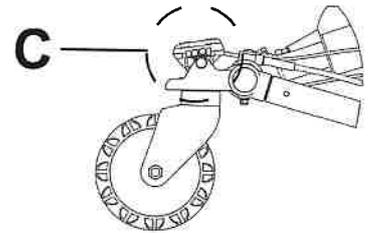

Figure 13 – Wheel lock and Steer-Lock off
To release a wheel lock or **Steer-Lock (C)**, press down on the top of the pedal with your foot or lift up on the pedal with your toe. The top of the pedal will rest against the caster frame when you release the wheel lock or **Steer-Lock (Figure 13)**.